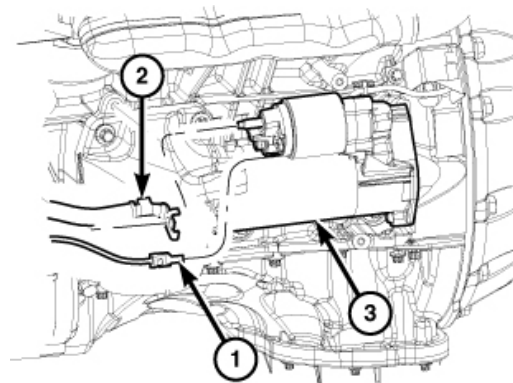

Figure 23 – Starter Motor Connections
43. Disconnect the solenoid connector (1) (Figure 23).
44. Remove the B+ battery cable retainer and remove the B+ battery cable (2) (Figure 23).
45. Remove the retainers and remove the starter (3) (Figure 23).
19. Install the starter (3) the battery cable retainers. Tighten the starter bolts to 54 N·m (40 ft. lbs.) (Figure 23).
20. Install the B+ battery cable retainer and install the B+ battery cable nut to 12 N·m (9 ft. lbs.) (2) (Figure 23).
21. Connect the solenoid connector (1) (Figure 23).